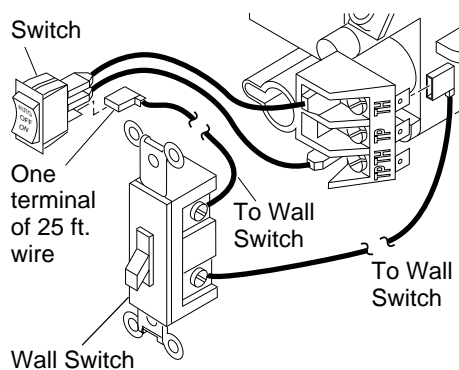

Figure 13 - Connecting Wire Terminals
- Connect one terminal of 25 ft. wire to bottom contact of switch located on heater front control panel (see Figure 13).
- Connect remaining wire terminal to the "TH" terminal on the control valve (see Figure 13).